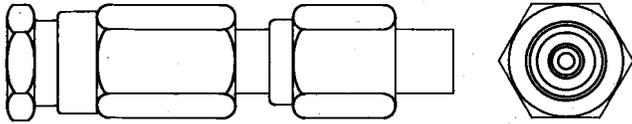

Fig. 8—KS-19759, L1 Connector
2.08 KS-19759, L1: The KS-19759, L1 (Fig. 8) is a miniature, 50-ohm, coaxial, screw-on connector. This connector is arranged for connection to a semirigid coaxial cable. This connector will mate with the KS-19758, L1 connector. The connector is used in the TD-3 Radio System.